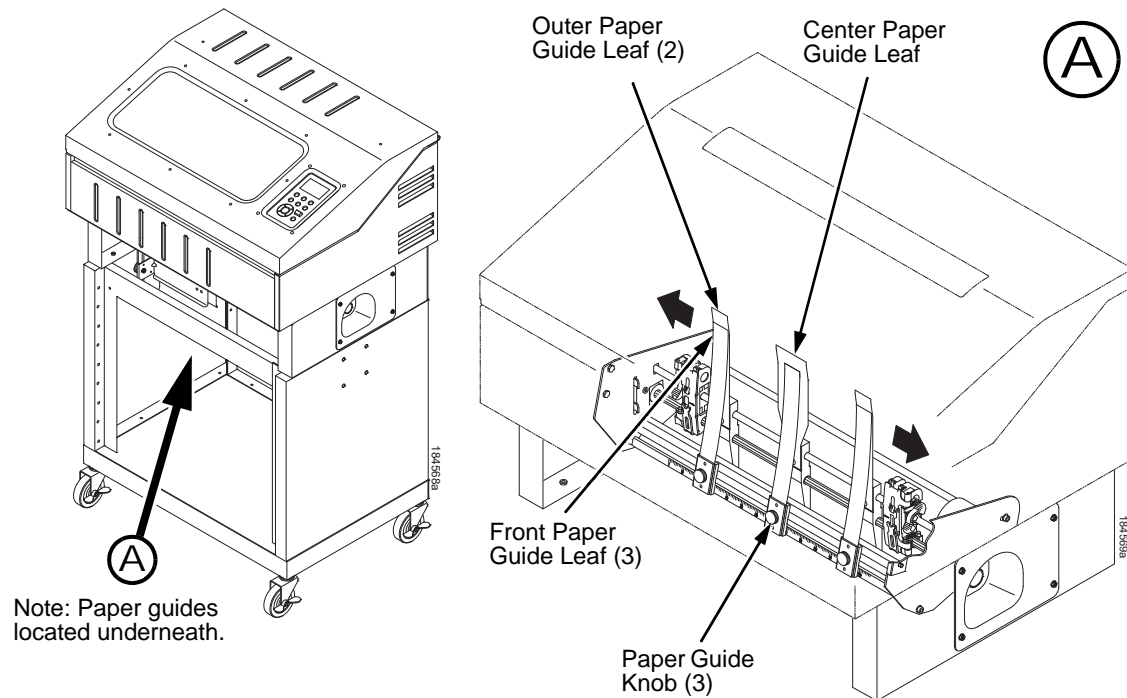

Figure 1. Adjusting the Paper Guides
1. Remove the left paper guide knob and the left, front paper guide leaf. (See Figure 1.)
7. Install the paper guide knobs and front paper guide leaves. (See Figure 1.)